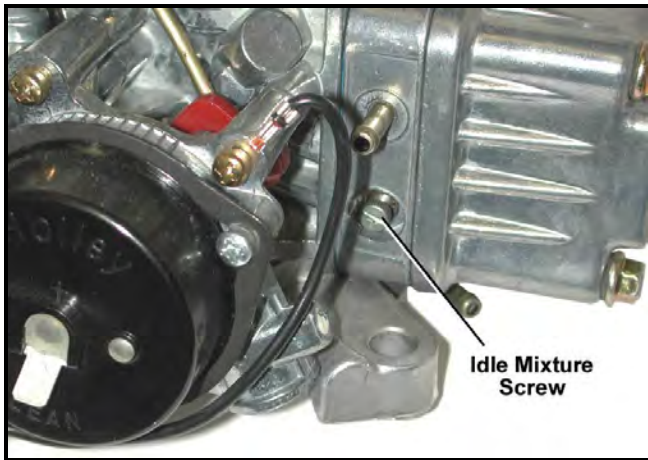

Figure 12
2. Adjust each idle mixture screw (Figures 12 & 13) 1/8 turn at a time, alternating between each screw. Turn them equally, until you achieve the highest possible vacuum reading without adjusting the curb idle speed screw. Turn screws in to lean the mixture. Turn them out to richen the mixture.